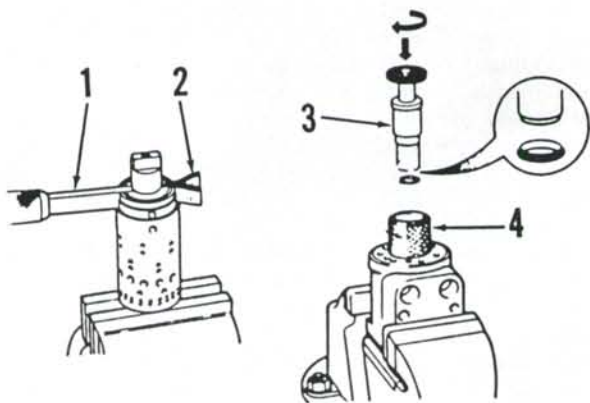

Fig. 57—View showing method of installing centering springs and shaft seal rings using Case special tools.
NOTE: If available, Case special tool (CAS-I239) will aid in installing centering springs. To use, slide tool through spring slots of sleeve and spool, assemble springs and place ends in slot of tool, then compress opposite ends of springs and slide springs into position while pushing tool out. See Fig. 57.
Install a new oil seal (9) in body with seal lip facing inward. Lubricate "O" ring (10) and install it on outside diameter of backup ring (11), then install assembly in valve body bore. If available, Case special tool (CAS-1238) should be used to ensure correct installation of "O" ring and backup ring. To use, install "O" ring and backup ring on end of spindle (3—Fig. 57). Push spindle with seal ring into sleeve of special tool, then insert assembly into valve body until sleeve bottoms. Use a rotating motion while pushing on tool spindle until "O" ring seats in valve body, then withdraw tool.